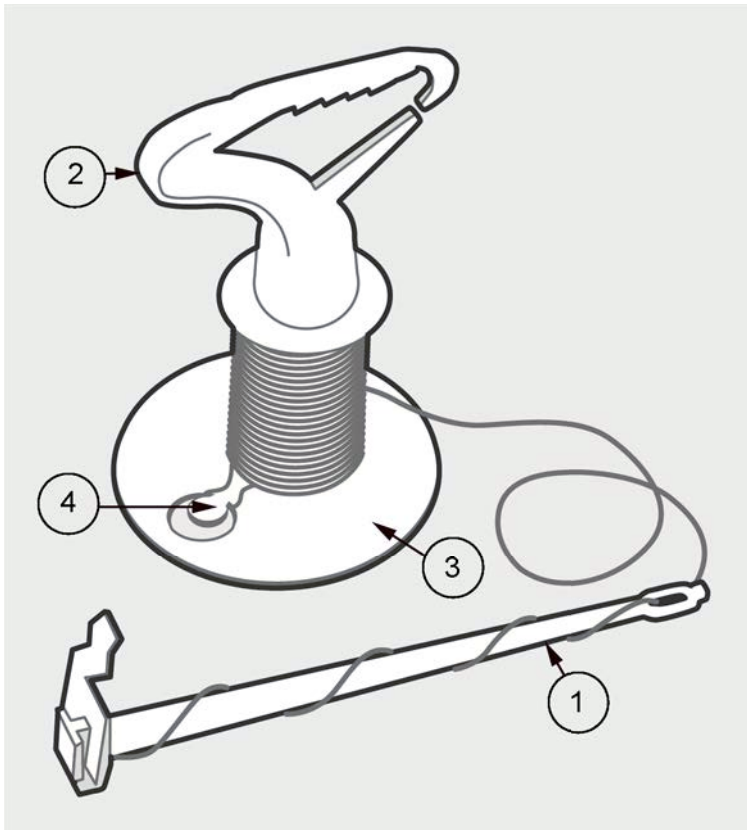

Figure 4 RS41 Unwinder Details
- ▶ 1. The unwinder stick (number 1 in Figure 4 \(page 23\)) is attached between two plastic clips in the unwinder hook (number 2). Detach the stick from between the plastic clips and pull it out from the unwinder bottom plate (3).
In the unwinder body, the unwinder string runs under a round plastic clip (number 4 in Figure 4 \(page 23\)) on the bottom plate. This keeps the string attached to the unwinder, and the radiosonde attached to the balloon.